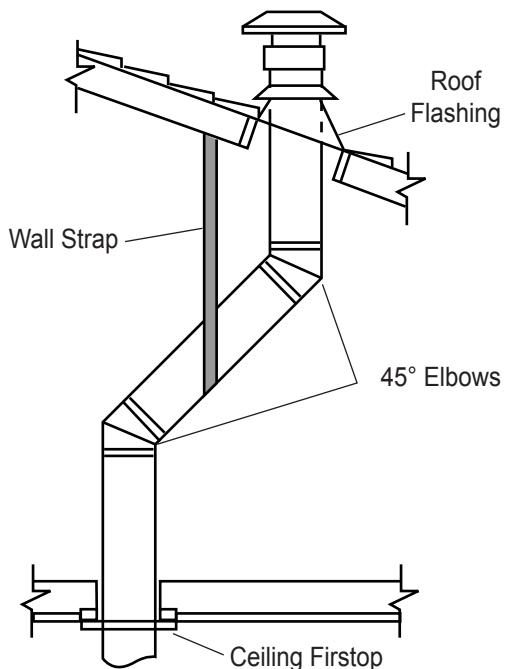

Figure 27 - Offset with Wall Strap and 45° Elbows
- Determine the route your vertical venting will take. If ceiling joist, roof rafters or other framing will obstruct the venting system, consider an offset. See *Figure 27* to avoid cutting load bearing members.